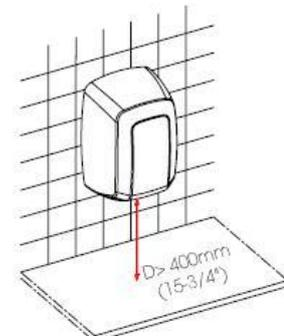

Figure 13.
**NOTE:** contemplate a minimum distance of 400 mm (15,80") away from ledges, marble tops or wash basins (Figure 13). Avoid as much as possible the presence of reflecting surfaces within the area of the hand dryer's IR sensor.